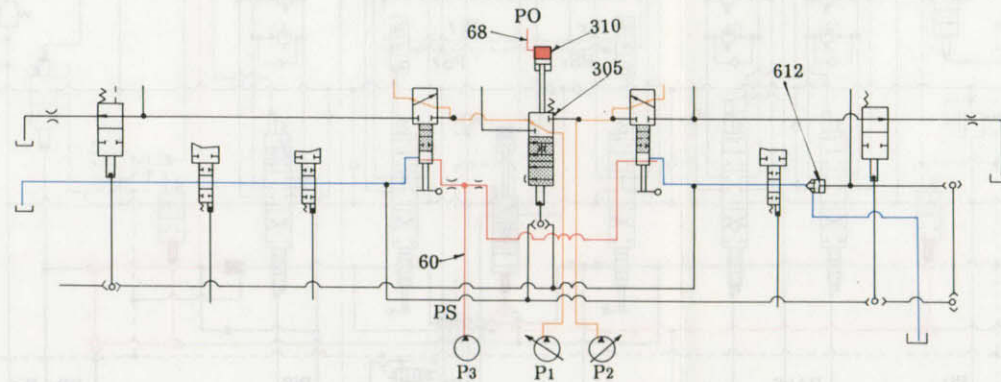

Fig. 6 During Simple Travel
2) During simple travel (Fig 6)